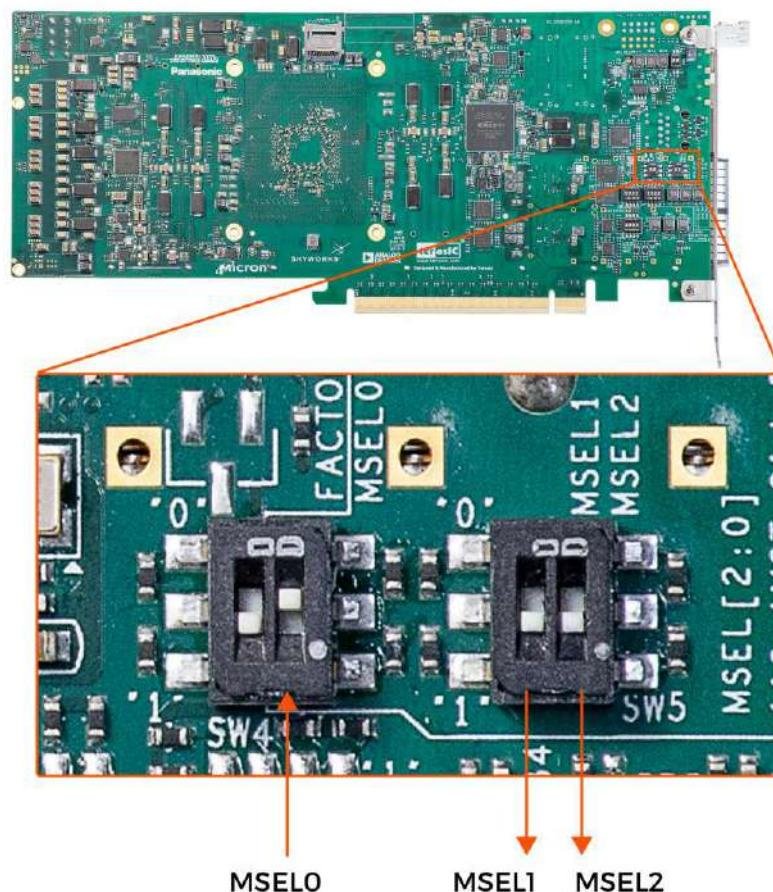

Figure 3-2 Position of the MSEL[2:0] switch
2. Set the FPGA configuration mode to AVSTx8 mode by setting **SW4** and **SW5** MSEL[2:0] as **110** as shown in **Figure 3-2**.